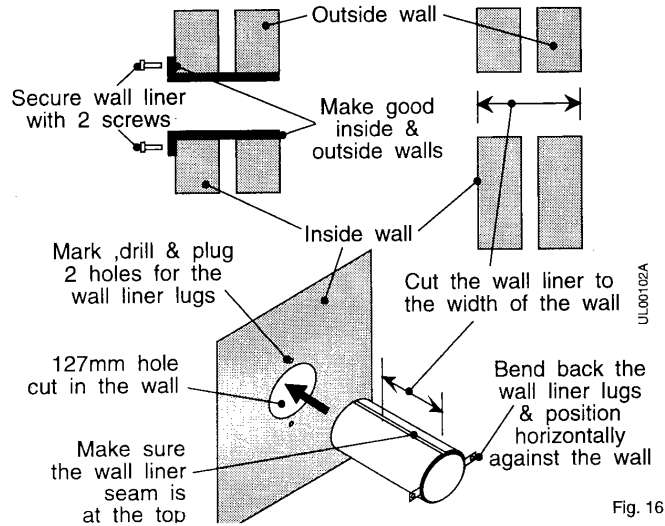

Fig. 16
6. Measure the wall thickness and cut the wall liner to the same length. See Fig.16 Bend back the wall liner lugs (90°). From the inside insert the wall liner into the wall, ensure the seam is to the top and that the tabs are horizontal, mark, drill, plug & screw the wall liner into position. Make good the wall (if required).